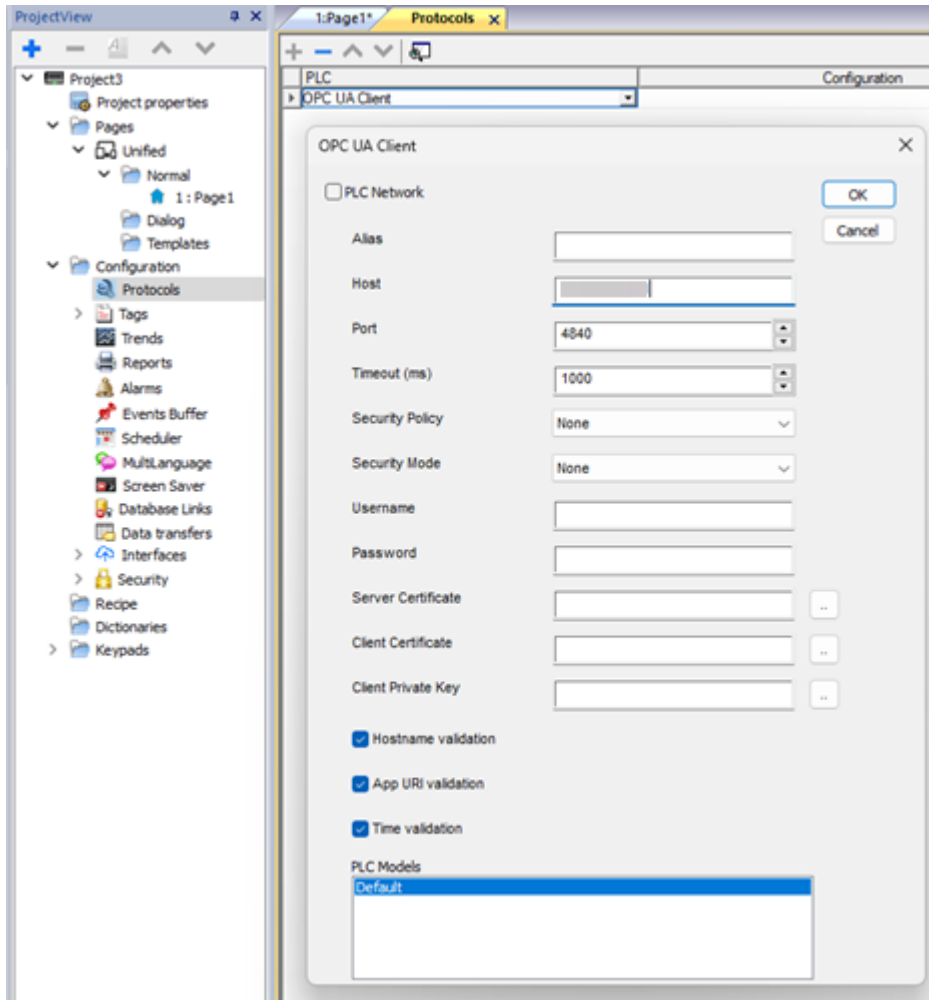

Figure 3-34: OPC UA Client dialog box
13. Accept the defaults for all other parameters. (Figure 3-34)